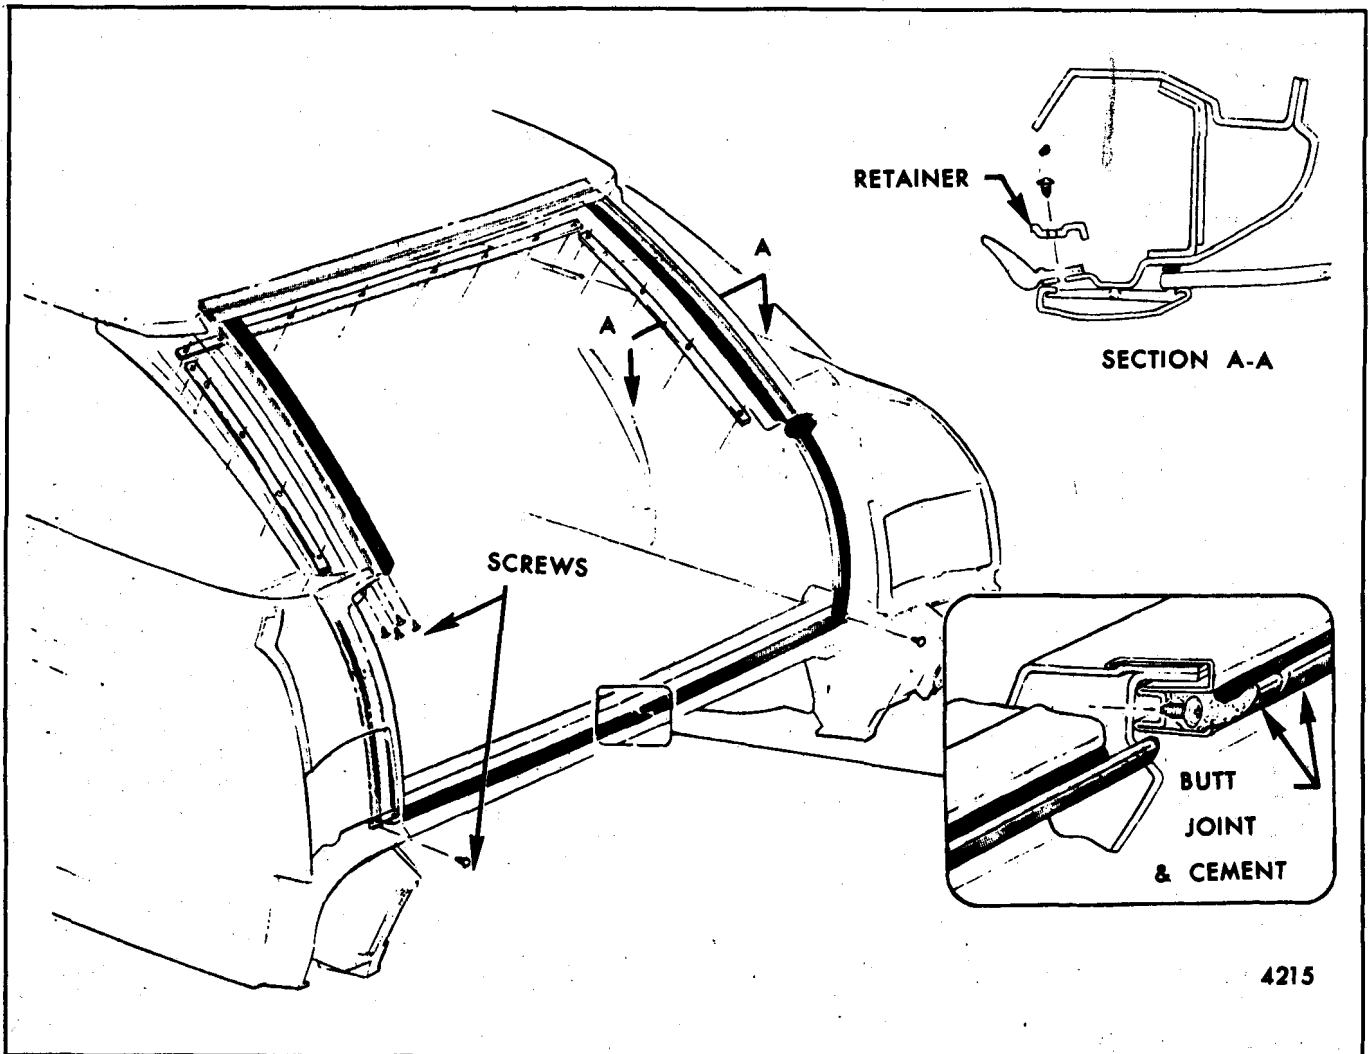

Fig. 9-2-Back Body Opening Weatherstrip Retention
The back body opening weatherstrip is of one-piece design with a butt joint located at the bottom of the opening (Fig. 9-2). The weatherstrip is cemented to the body opening below the beltline. The weatherstrip
2. Remove screws securing weatherstrip retainers above the beltline at the detail areas at beltline off-set and at lower corners of back body opening (Fig. 9-2). Remove locating buttons at upper corners, if present.